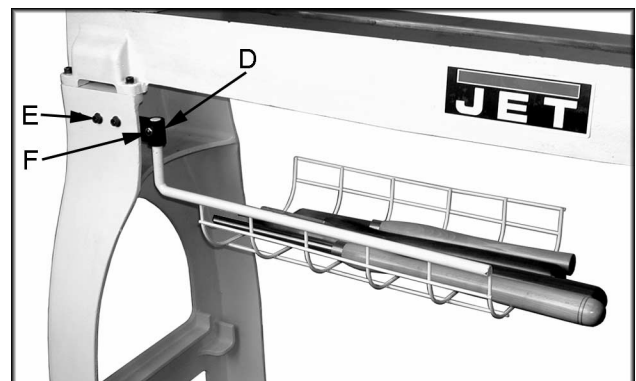

Fig. 4
- Mount the bracket (D, Fig. 4) to the inside of the lathe leg with two 5/16"-18 x 1-1/2" hex socket cap screws, four 5/16" flat washers and two 5/16" hex nuts (E, Fig. 4).
- Place the arm of the tool basket into the bracket and secure with a 5/16"-18 x 5/8" set screw and tighten the 5/16" hex nut (F, Fig. 4). Line up the notch in the arm with the setscrew so the tool basket can pivot.